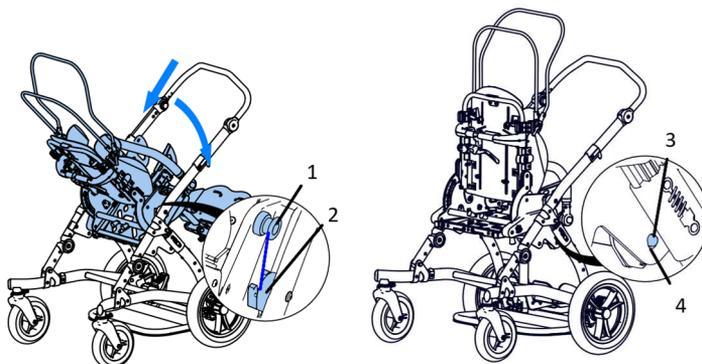

Fig. 3
Insert the pushchair seat at an angle into the mobility base so that the seat pins (1) located on both sides of the seat fit into the frame sockets (2). Then turn the seat horizontally until the seat locking pins (3) lock into the base holes (4). The design of the pushchair allows the seat to be installed both forward and rear-facing. Fig. 3